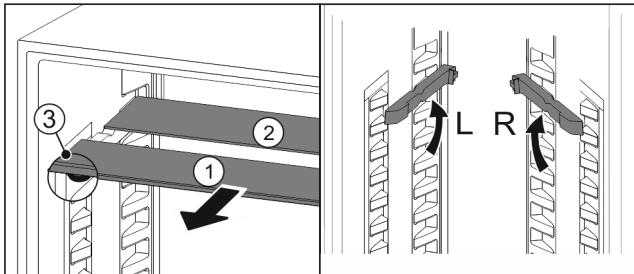

Fig. 81
- ▶ Pull the glass panels out Fig. 81 (1) from the front, one at a time.
- ▶ The glass panel Fig. 81 (1) and trim strip are at the front.
- ▶ The stops Fig. 81 (3) point down.